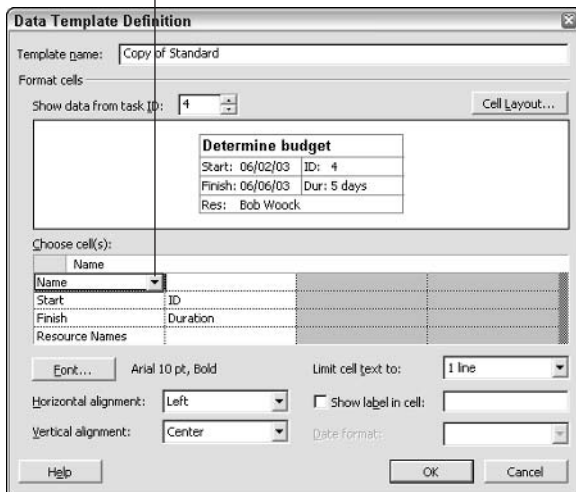

Figure 8-21: Use this dialog box to change the information that you show in network diagram nodes.
3. Highlight the template that you want to change and click the Edit button. Alternatively, you can create a new template by clicking the New button, or you can copy an existing template and make changes to the copy by clicking the Copy button. For this exercise, I'll copy the Standard template by clicking the Copy button. Regardless of whether you click the New, Edit or Copy button, Project displays the Data Template Definition dialog box, as shown in Figure 8-21.